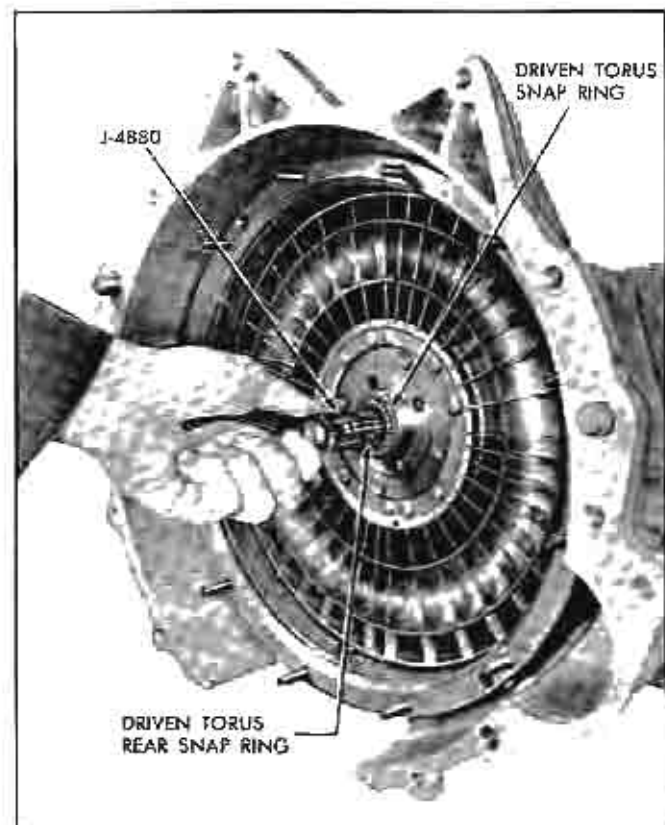

Fig. 176 Installing Driven Torus Rear Snap Ring
16. Install driven torus rear Truarc snap ring on main shaft (Fig. 176).